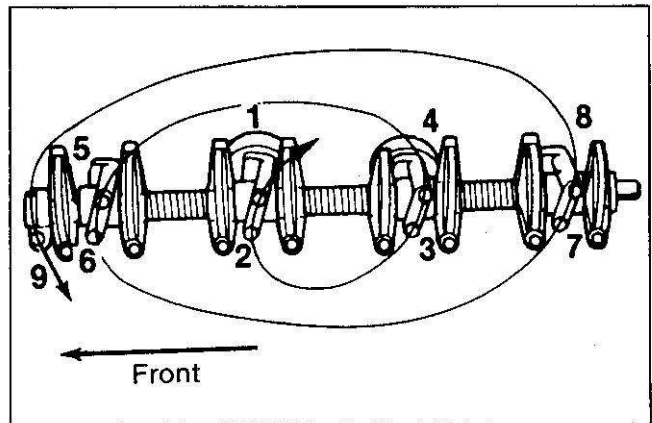

Figure 24. Rocker Arm Assembly Torque Sequence
- Bolts (43) and nuts (52) to 23 N·m (17 lb·ft), using the sequence shown in figure 24.